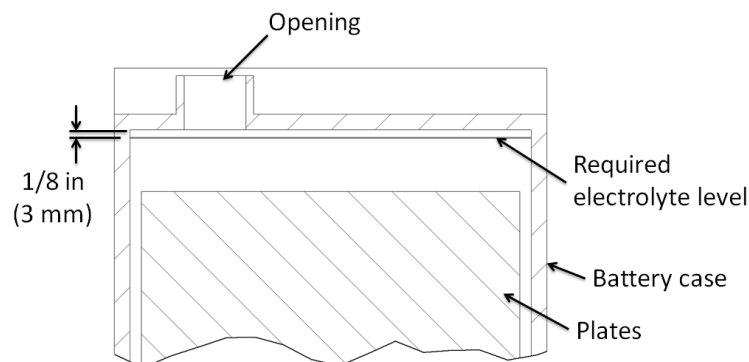

Figure 19 : Electrolyte level details
3. Verify through each of the 3 openings that the level is nearly 1/8 in (3 mm) below the top of the cell chamber (see Figure 19). If this is the case, the level is sufficient. The white battery caps can be reinstalled as well as the battery cover of the MINIDOZER. If the level is not sufficient, distilled or deionized water must be added in the batteries (see the **Adding electrolyte in the batteries (wet lead-acid batteries only)** section).
1. Slowly pour water inside the cells where the electrolyte level is not sufficient. Fill the cell until the electrolyte level is nearly 1/8 in (3 mm) below the top of the cell chamber (see Figure 19).